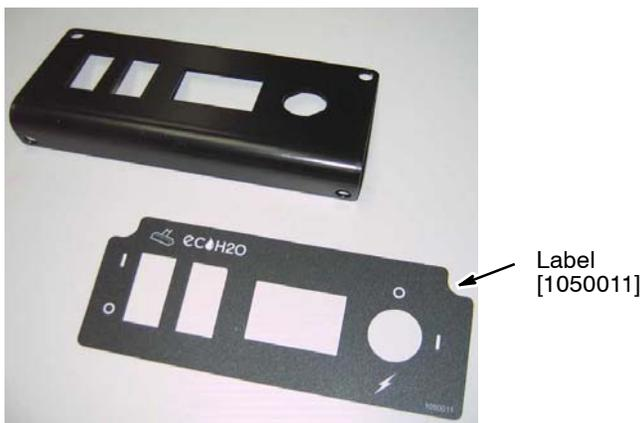

Fig. 26
4. Remove the components and the label from the lower control panel (Figure 26). *Take note of wire connections before removing components.* Install new label on panel and replace components.